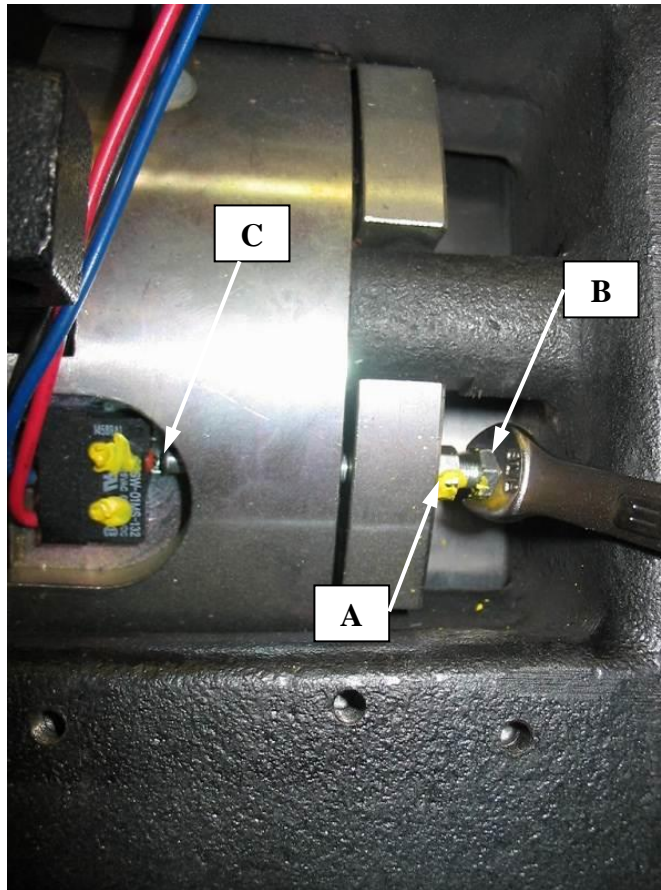

Figure 2 (cover removed for clarity)
- Referring to Figure 2, loosen the lock nut, "A."